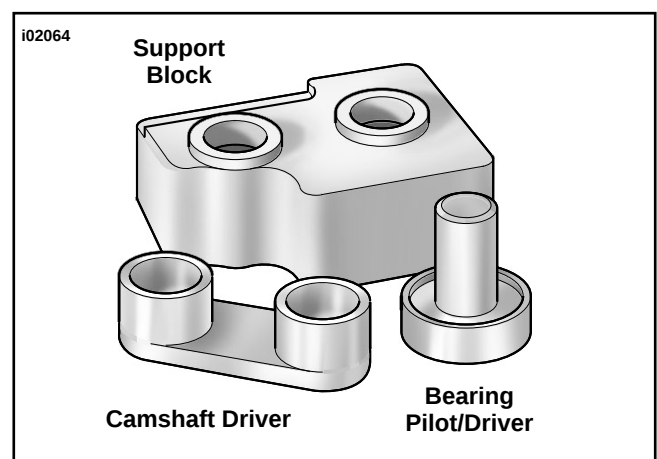

Figure 4. Camshaft/Camshaft Bearing Remover/Installer (Part number HD-43644)
- a. See Figure 4. Obtain the CAMSHAFT/CAMSHAFT BEARING REMOVER/INSTALLER (HD-43644)